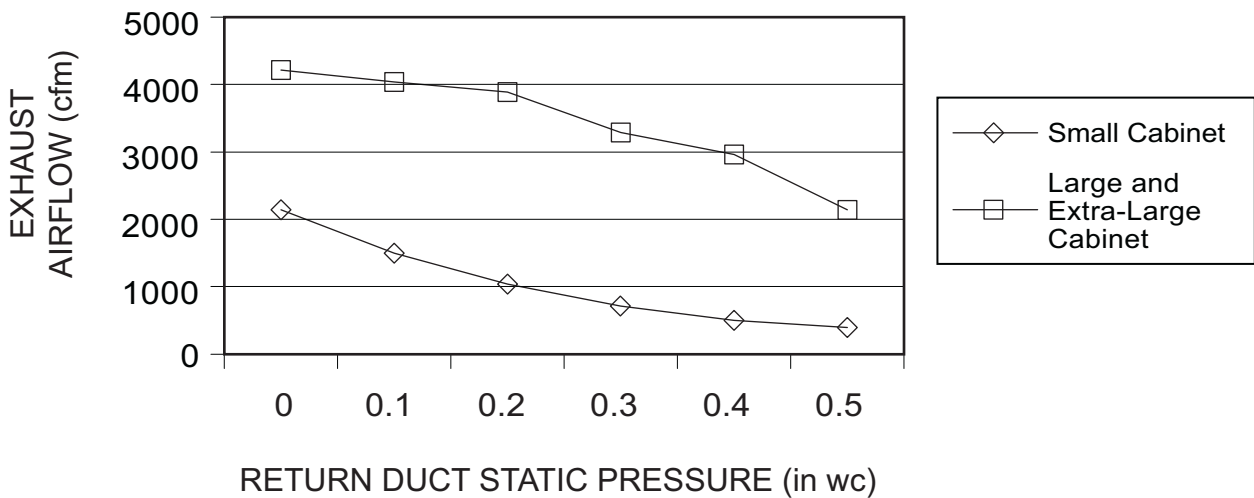

Fig. 12 - Power Exhaust Performance
8. Test power exhaust operation by setting the power exhaust set point on the EconoMi\$er controller to 0%. Power exhaust performance is shown in Fig. 12.